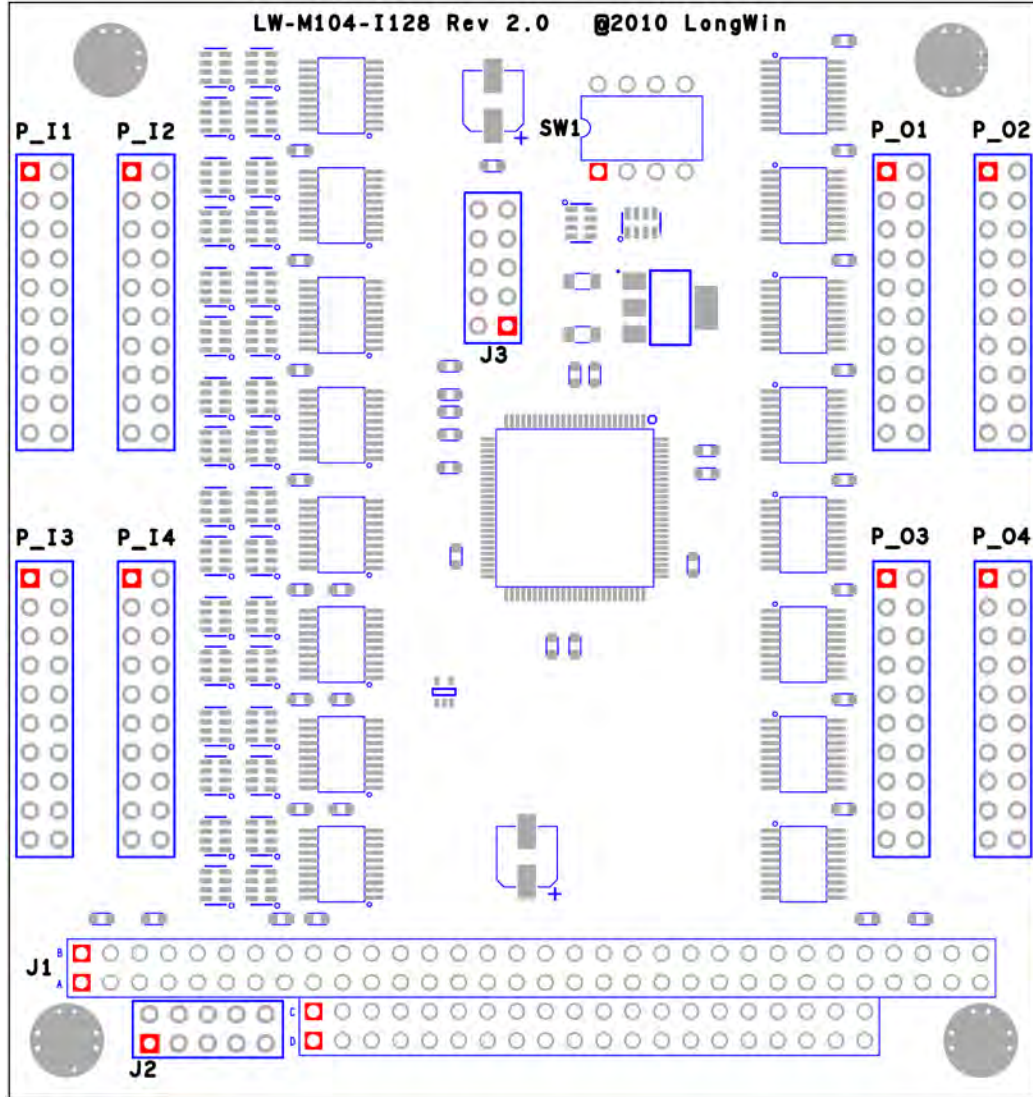

Figure 4. LW-M104-I128 R2 (DX) Connectors Location
On board connectors link the *LW-M104-I128 R2 (DX) Digital I/O Module* to external devices. Generally, you simply need a cable to make connections. Refer to Figure 4. LW-M104-I128 R2 (DX) Connectors Location for the locations of the connectors J1, J2 and P1 to P8. Table 2. LW-M104-I128 R2 (DX) Connector List summarizes the use of the connectors. The interface is described in following section, showing pin assignments, signal definitions. Please refer to relative section for detail.